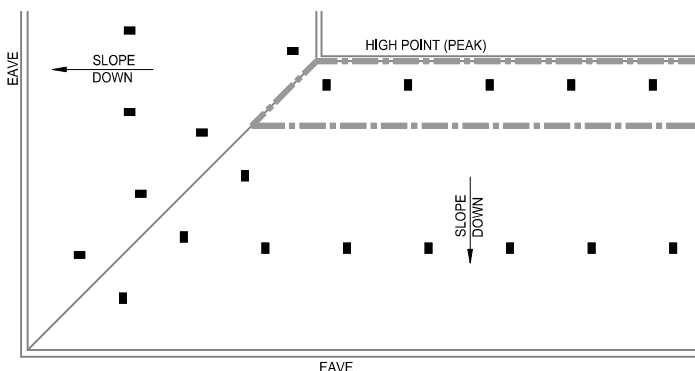

FIGURE 23C: 2 ROW PROTECTION CALCULATION #2
- Calculation #2: Calculate the most hydraulically demanding 5 contiguous sprinklers along the high point. See Figure 23C.